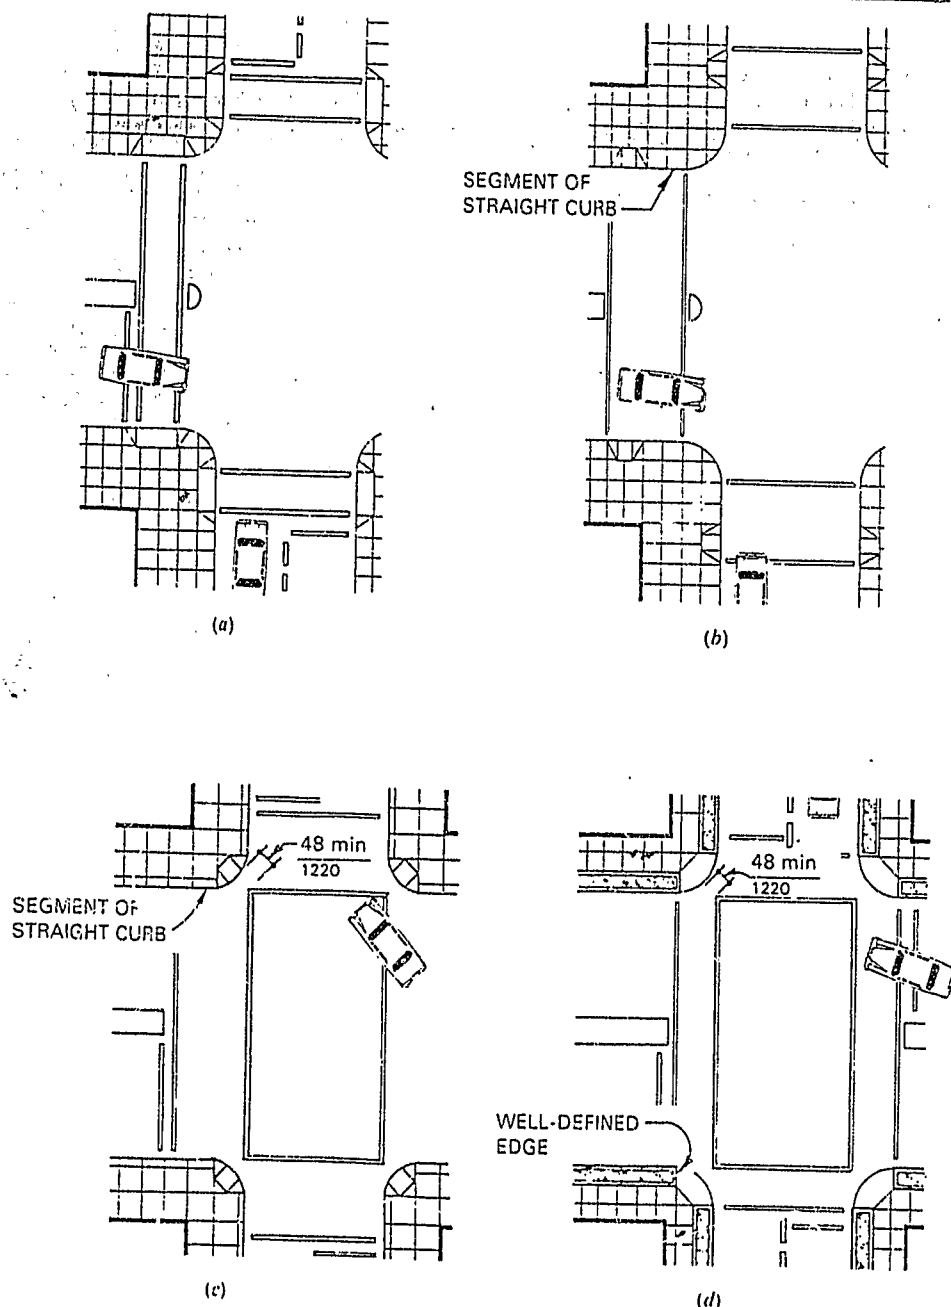

Fig. 15
4.7.9 Location at Marked Crossings. Curb ramps at marked crossings shall be wholly contained within the markings, excluding any flared sides (see Fig. 15).
4.7.10 Diagonal Curb Ramps. If diagonal (or corner-type) curb ramps have returned curbs or other well-defined edges, such edges shall be parallel to the direction of pedestrian flow. The bottom of diagonal curb ramps shall have 48-in (1220-mm) minimum clear space as shown in Fig. 15(c) and (d). If diagonal curb ramps are provided at marked crossings, the 48-in (1220-mm) clear space shall be within the markings (see Fig. 15(c) and (d)). If diagonal curb ramps have flared sides, they shall also have a segment of straight curb at least 24 in (610 mm) long located on each side of the curb ramp and within the marked crossing (see Fig. 15(c)).
4.7.11 Islands. Any raised islands in crossings shall be cut through level with the street or have curb ramps at both sides and a level area at least 43 in (1220 mm) long in the part of the island intersected by the crossings (see Fig. 15(a) and (b)).